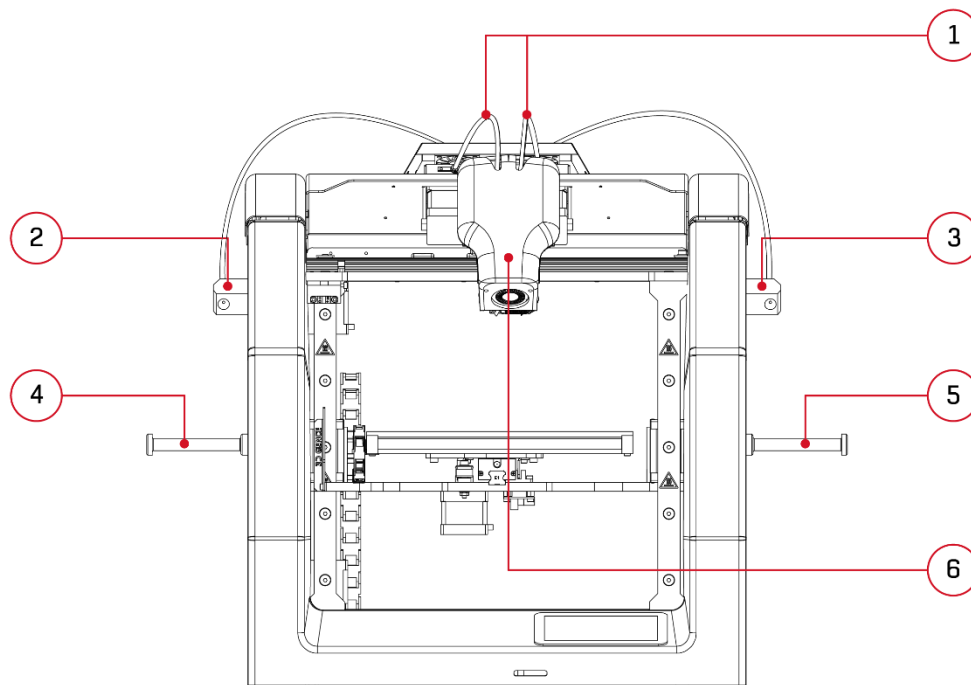

*Fig. 6 1. Z axis breaker | 2. Z axis endstop - in its correct home position*
- confirm that the Z axis breaker (fig. 6) is not damaged, broken or bent and that it coincides with the Z axis endstop (is aligned with the endstop notch);